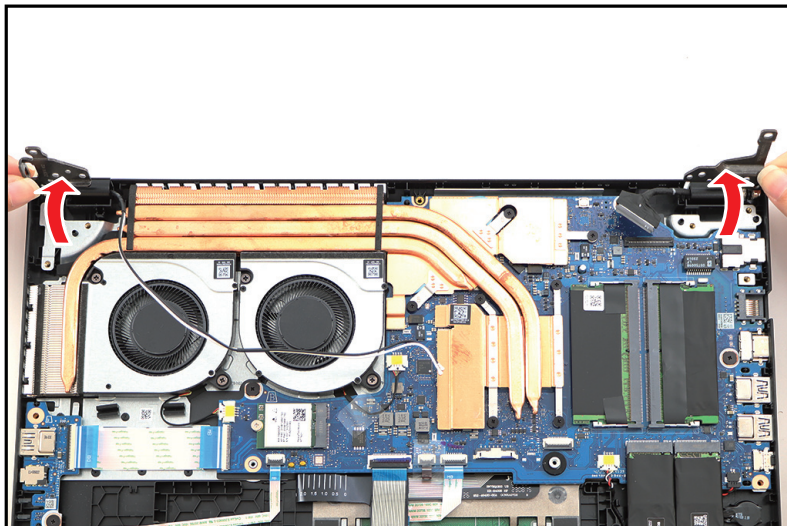

Figure 1-29. LCD Module Removal
6. Close the top assembly and lift both LCD hinges until they are fully extended (Figure 1-29).